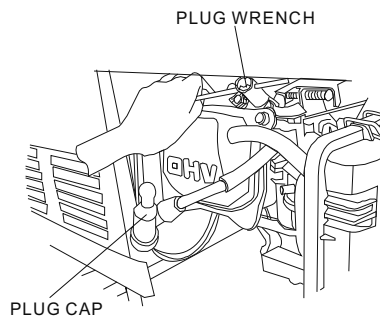

Figure 25- Removing the spark plug
2. Unscrew the spark plug from the generator using the spark plug wrench included with this product (see figure 25).